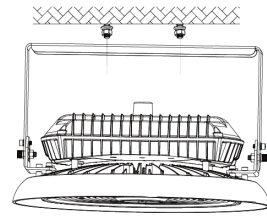
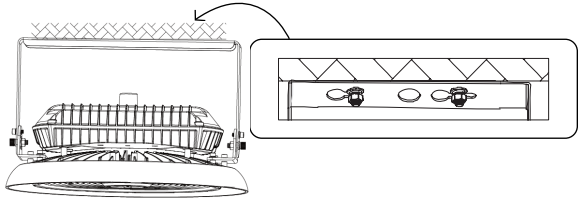

Fig. 5
Fig. 6
3. Align the bracket hole with screw hole (Fig. 5), and push the fixture to one side (Fig. 6) and affix.